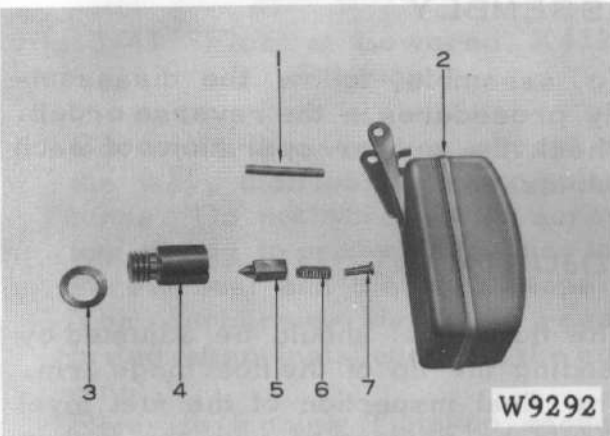

Fig. 3-35 Disassembled Parts
15. Remove the float lever pin (1), and remove the following items in figure 3-35.